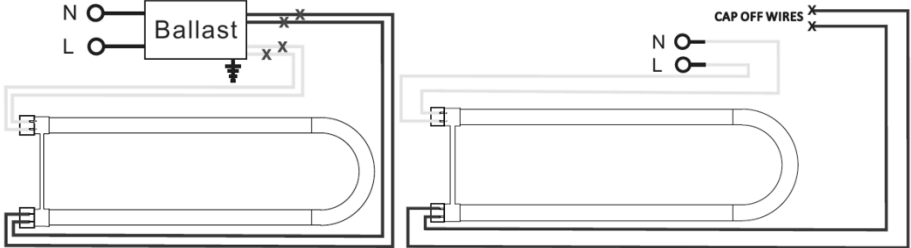

Figure 1
- STEP 3:** Disconnect luminaire supply wirings **L** and **N** to branch circuit as shown in Figure 1.